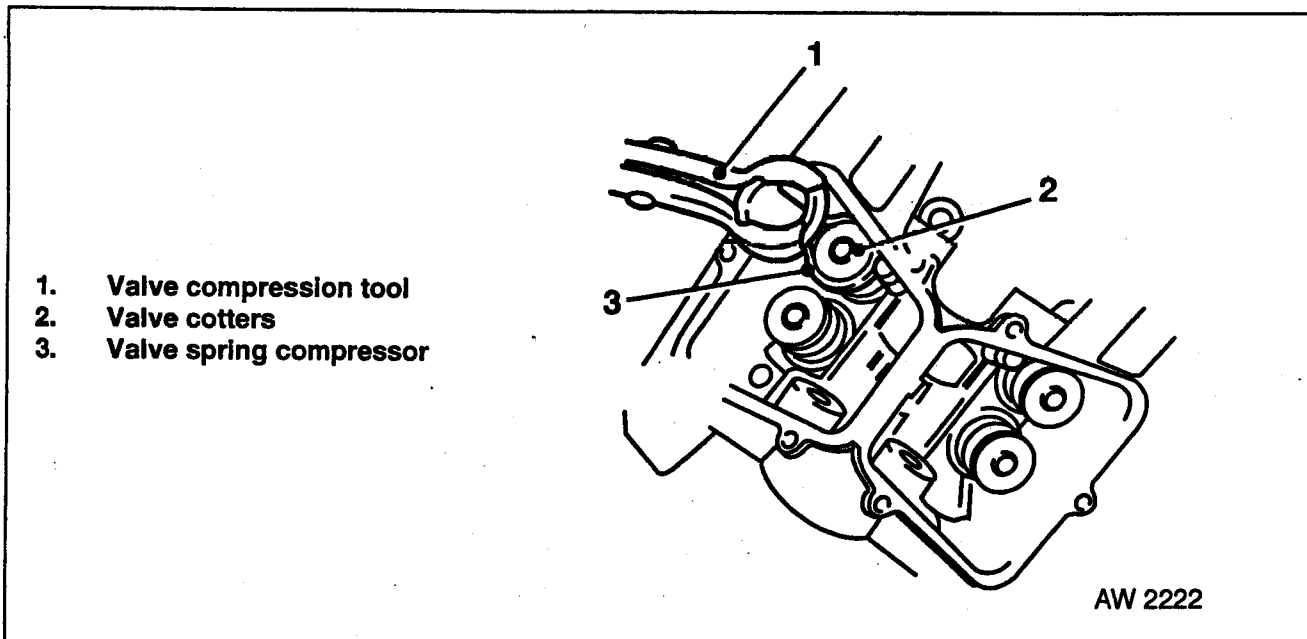

Fig 2.13 Valve Removal
g. Using suitable valve spring compressor, remove retaining cotters, remove springs and valves. Access can now be gained to replace valve stem oil seals if necessary. Fig 2.13 refers.